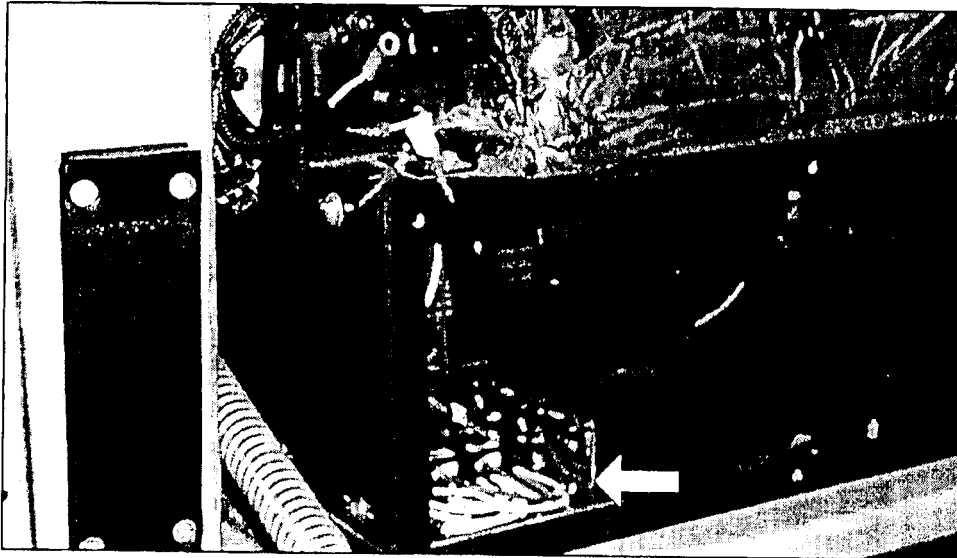

Figure 8.
- Using the mounting hardware removed in Step 8, install the new electrical panel (p/n 16-14-1386). Route three wire leads, disconnected in Step 5, up and through the hole in the housing (Figure 8).